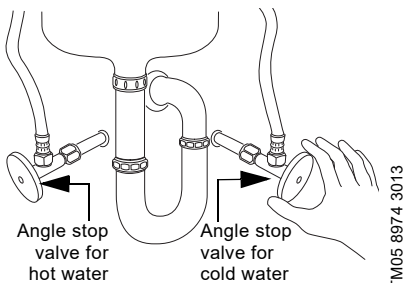

Fig. 3 Close the angle stop valves for the hot and cold water under the sink before installing the bypass valve
1. Close the angle stop valves for the hot and cold water below the sink; see fig. 3.